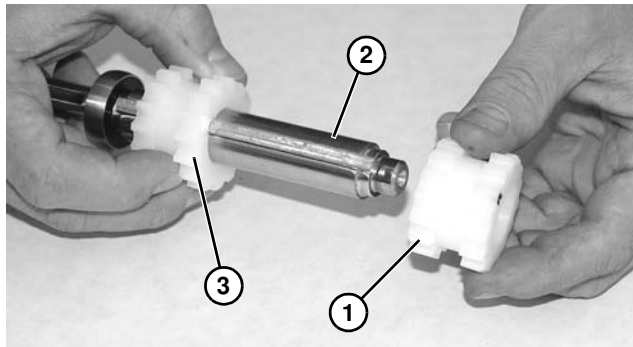

Figure 56
3. Slide free moving sprocket(s) (**Figure 56, item 1**) off the end of pulley (**Figure 56, item 2**).
4. Measure location of fixed sprocket (**Figure 56, item 3**), loosen set screw, and remove fixed sprocket.